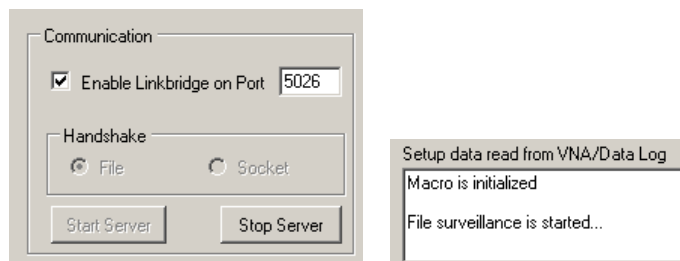

Fig. 7 Troubleshooting information
- Option Linkbridge is enabled in the Options tab (s. figure 7)